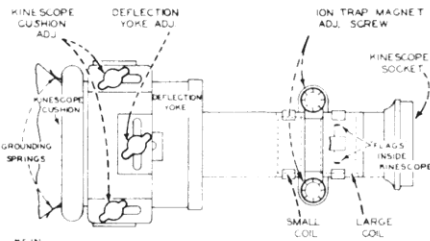

Figure 11—Cushion, Yoke, and Ion Trap Magnet Adjustments
(See Figure 11 for the location of the cushion and yoke adjustments).
**INSTALLATION OF KINESCOPE**—The Kinescope second anode contact is a recessed metal well in the side of the bulb. The tube must be installed so that this contact is approximately on top. The final orientation of the tube will be determined by the position of the Kinescope flags. Looking at the Kinescope gun structure, it will be observed that the second cylinder from the base inside the glass neck is provided with two small metal flags. The Kinescope must be installed so that when looking down on the chassis, the two flags will be seen as shown in Figure 11.
Slip the ion trap magnet with its coils on the neck of the Kinescope with the large coil toward the base of the tube as shown in Figure 11.
**ION TRAP MAGNET AND FOCUS ADJUSTMENT**—The ion trap rear magnet poles should be approximately over the Kinescope flags as shown in Figure 11. Starting from this position adjust the ion trap magnet by moving it forward, at the same time rotating it slightly around the neck of the Kinescope for the brightest raster on the screen.